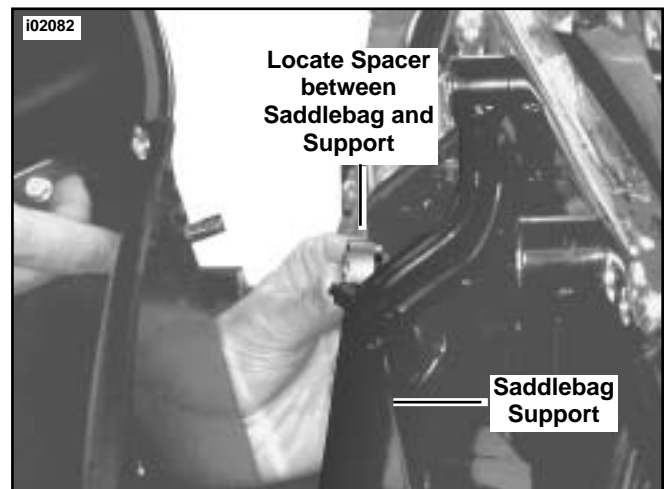

Figure 9. Install Spacers
21. See Figure 9. Hold saddlebag up to support and locate spacer (Part Number 90175-00) between saddlebag and support.